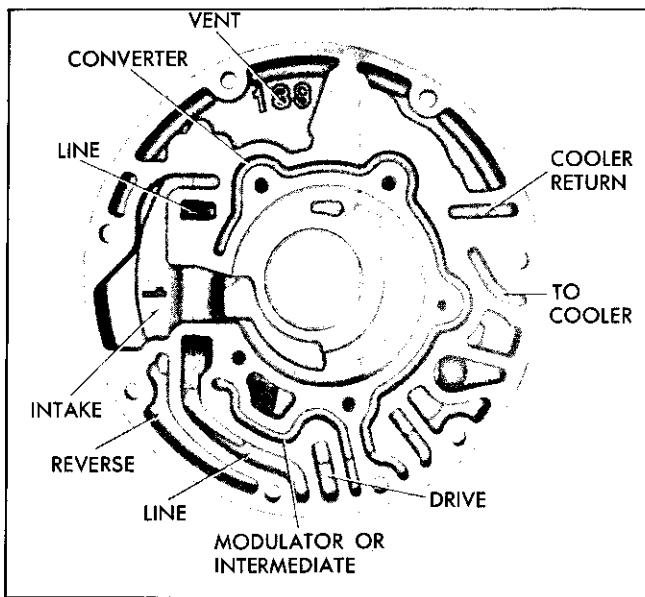

Fig. 7E-75 Pump Body Oil Passages
4. Check oil passages (Fig. 7E-75).